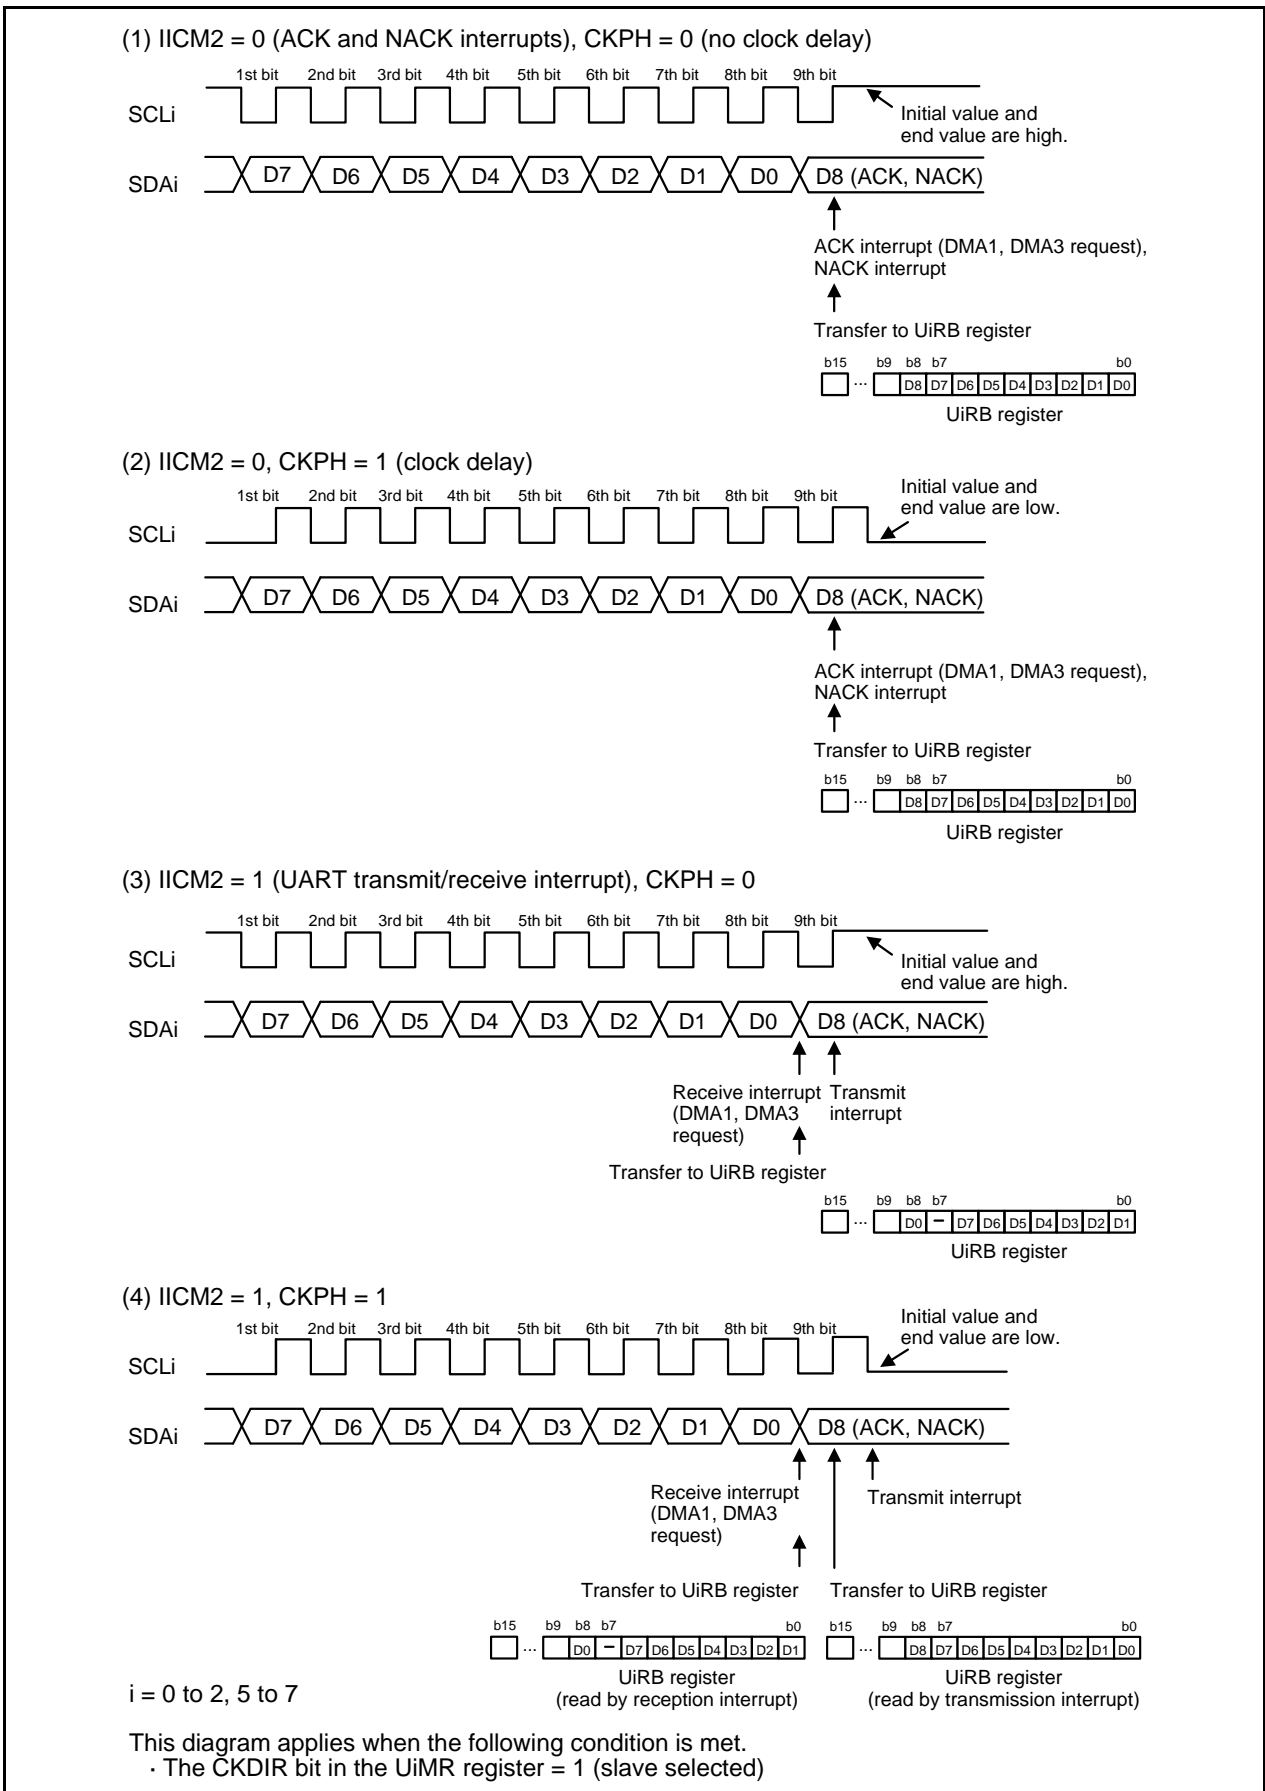

Figure 23.19 Transfer to UiRB Register and Interrupt Timing
In I²C mode, the functions and timings vary depending on the combination of the IICM2 bit in the UiSMR2 register and CKPH bit in the UiSMR3 register. Figure 23.19 shows Transfer to UiRB Register and Interrupt Timing. Refer to Figure 23.19 for the timing of transferring to the UiRB register, the bit position of the data stored in the UiRB register, types of interrupts, interrupt requests and DMA request generation timing.
2. See Figure 23.19 “Transfer to UiRB Register and Interrupt Timing”.
The transmit/receive clock is used to transmit/receive data as is shown in Figure 23.19.